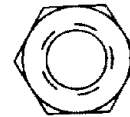

Fig. 24 - Hex Nut for Leveling Foot
29. Put a hex nut on each of the *leveling feet*. (Figure 24)